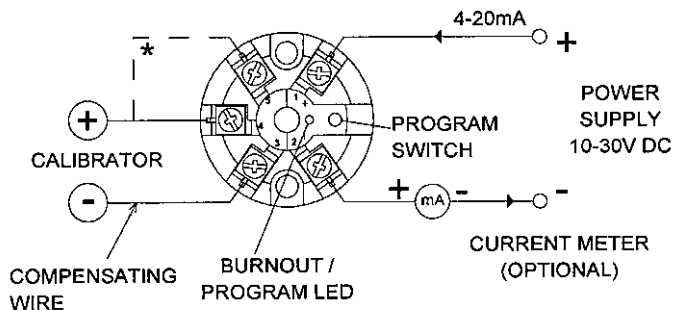

Figure 3
1. Connect circuit as shown in Figure 3 and set the TX calibrator for temperature required at 4 mA, switch on and allow 2 minutes warm up time (for best accuracy).